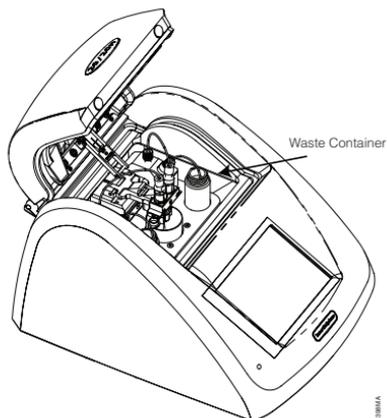

Figure 10. Place a waste container underneath the tips during prime and flush.
3. Place a waste container underneath the injector tip assembly. If necessary, unlatch the injector tip holder from the instrument lid. By unlatching the injector tip holder from the instrument lid, you can prime and flush the injectors with the lid open (Figure 10).